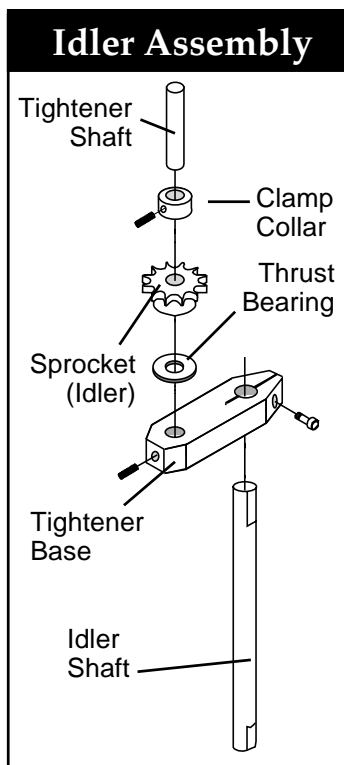

Figure 4-1. Idler Assembly - Exploded View
It's recommended that you grease the idler assembly, for both metric and ANSI single drive models, every six (6) months after installation. Note the order of assembly (see Figure 4-1).